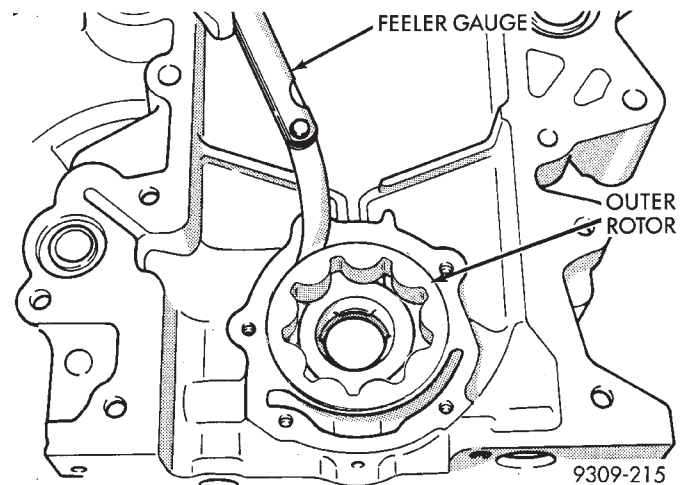

Fig. 10 Measuring Outer Rotor Clearance in Housing
- (5) Slide outer rotor into CCC, press to one side with fingers and measure clearance between rotor and CCC (Fig. 10). If measurement is 39mm (.015 inch) or more, replace CCC only if outer rotor is in spec.